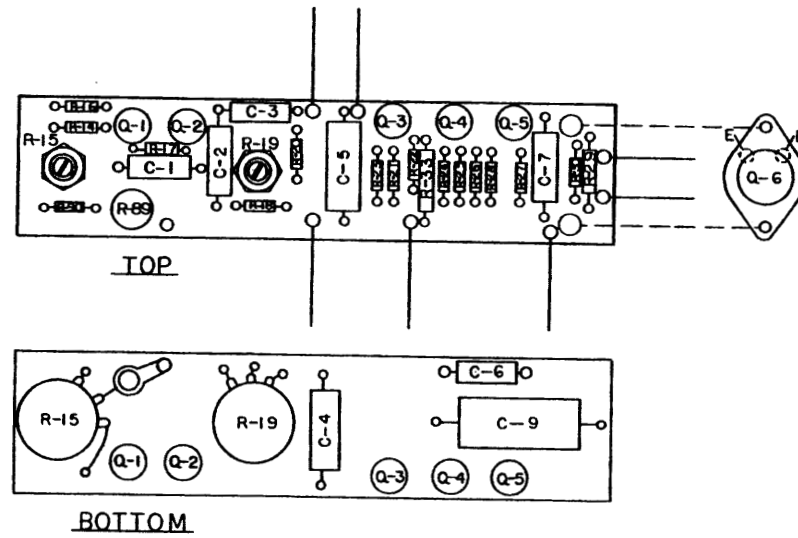

Figure 6-2 Component Location E95026
5.14 The various components parts associated with this circuit are shown in figs. 6-2 and 6-3. Visual inspection of the DIAL relay will determine whether or not this relay is following the dial pulses as dialed. If this relay is not following the pulses, examine the external dial mechanism and the circuitry through the coil of this dial relay. If satisfactory operation of the dial relay has been observed, then trouble shooting should be centered around the low pass filter and its associated circuitry. While dialing, battery and ground should appear alternately on the armature of the DRIVE relay. If not, inspect resistors R3, R4, R5, R6, R7 and capacitors C3 and C4. These alternate battery and ground pulses can be traced to the filter, over contacts 25 and 26 of S5, to pin 3 of the DRIVE relay. The filter consists of inductors C4X, C6X and capacitors C5 and C6. The purpose of this filter is to convert the square wave as received for the proper operation of the DRIVE relay and its associated bias networks. Without the sloping waveform it would not be possible to control the % break transmitted by the set. The output waveform of this filter should approximate that of a sine wave. If capacitors C5 and C6 are suspected of being defective, these can most easily be checked through substitution. The total DC resistance reading between the armature of the DRIVE relay and the filter output as measured at terminal 25 of switch S5 should be in the order of 1700Ω when S5 is in the oscillator position. If this reading is not observed, locate and replace the defective component. Contacts 25 and 26 of S5 should also be inspected and cleaned if necessary. For dial pulse frequencies of 4, 6, 8, 10, 12 and 14 cps, capacitor C5 is switched into the filter circuitry, and capacitor C6 is switched into the filter circuitry when dial speeds of 20 cps are used. This switching is accomplished over the SEND PPS switch,